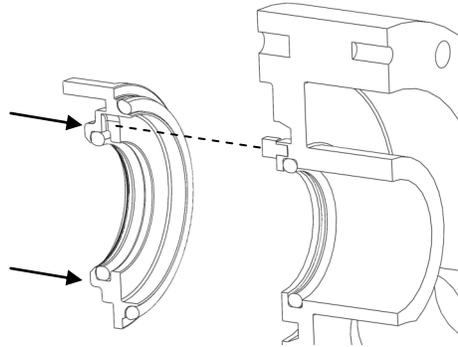

**Figure 30: Double O-Ring Seal (Top Shaft)**
*Disassembly:* The double o-ring seal consists of two shaft sleeves, two o-ring carriers, and eight o-rings (Figure 30). Remove the o-ring carriers from the back of the pump body and discard the o-rings (Figure 30). Remove the body o-rings using the tool provided by Q-Pumps (discard o-rings). Slide the shaft sleeves off the shafts and inspect for damage. Do not re-use sleeves that are damaged (sleeve surface grooved or scratched). Remove shaft o-rings and discard them.